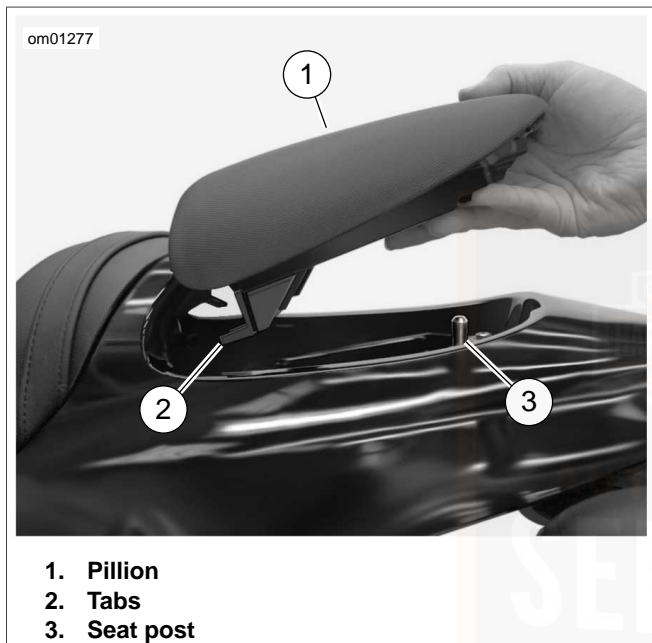

Figure 75. Passenger Pillion: XR 1200 Model
1. See Figure 75. Lift the rear of pillion to disengage grommet from the seat post.
1. See Figure 75. Insert pillion into trunk, aligning tabs on pillion with the slots in the trunk.